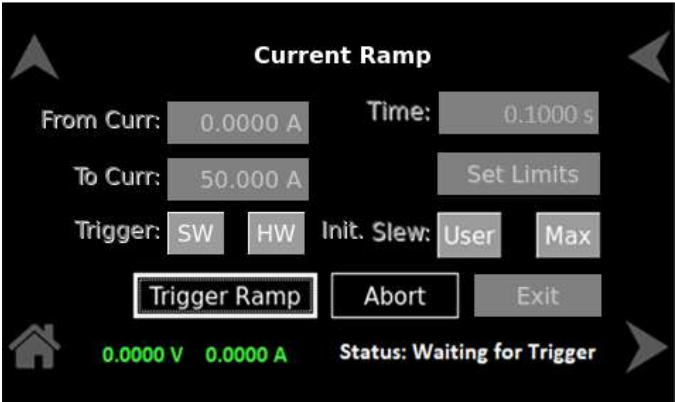

Figure 10-87. Status – Waiting for Trigger
c) **Waiting for Trigger:** When the system is waiting for the trigger, refer to Figure 10-87.